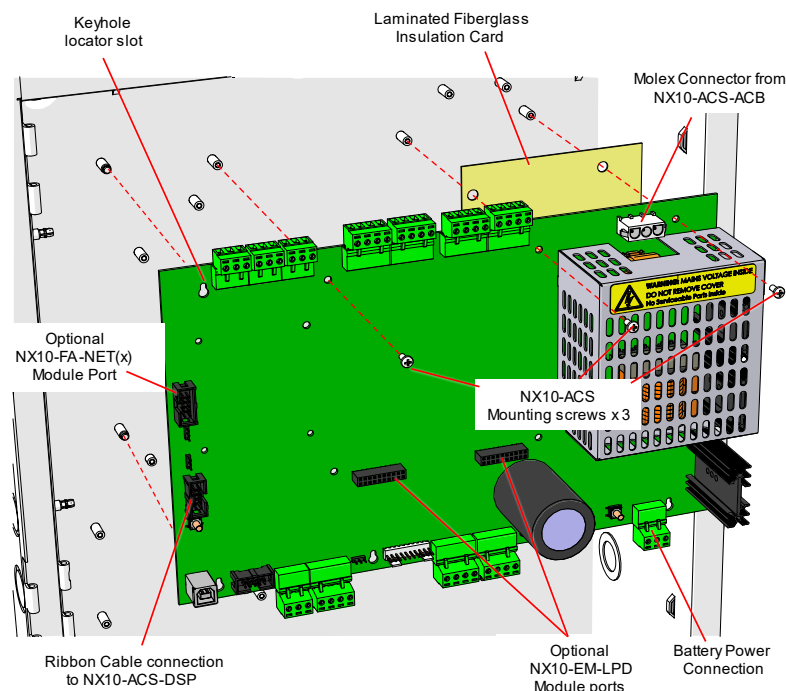

Figure 13 - NX10-ACS Base Card Installation
1. Place the laminated fiberglass insulation card in position on the backbox (Figure 13).
2. Carefully slide the NX10-ACS base card onto the five (5) top-hat stand-offs.
3. Install the three (3) panhead screws that secure the NX10-ACS base card to the backbox.